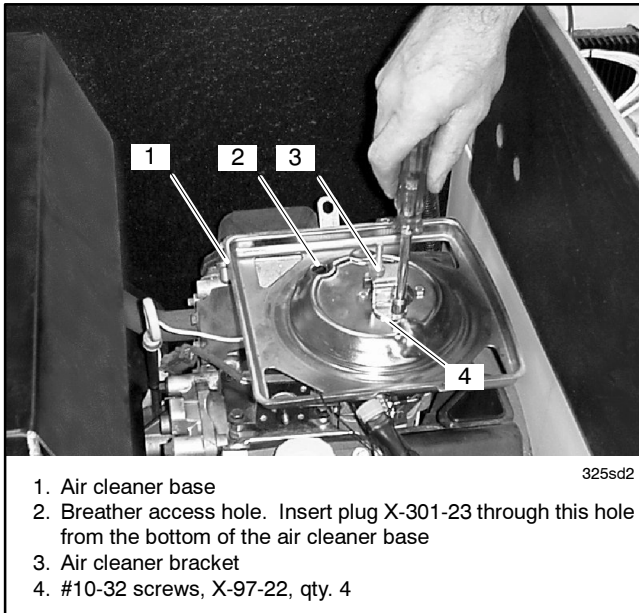

Figure 15 Air Cleaner Bracket and Screws
1. Plug the breather access hole in the air cleaner base plate with plug X-301-23. Insert the plug from the bottom of the base plate. See Figure 1 and Figure 15.
3. Place the air cleaner bracket on the air cleaner base. Apply a thread-locking adhesive such as Loctite® 222, 243, or equivalent to the threads of the four #10-32 x 1 1/4 in. screws, X-97-22, provided with the kit. Insert the screws through the air cleaner base, bracket, and heater and into the threaded holes in the carburetor. See Figure 15.